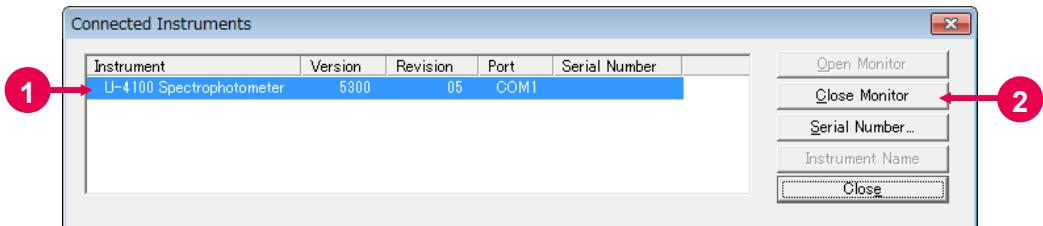
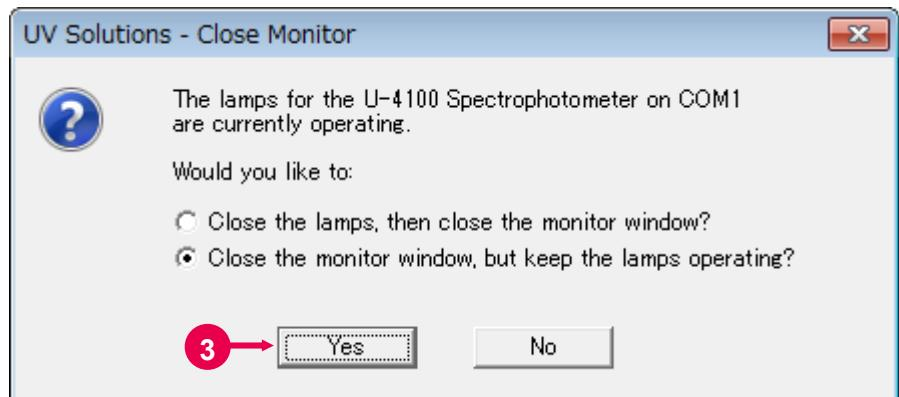

Fig. 6-4 (example of U-4100)
Fig. 6-5 (with U-4100)
- (1) On the Standard toolbar, click the  (Instruments) button (or select the Instruments command from the Tools menu). The mouse pointer will take the shape of an hourglass. About 10 seconds later, a dialog box as shown in Fig. 6-4 will appear. In this example, it is indicated that the spectrophotometer is connected.
- (2) In the Connected Instruments dialog box, click the spectrophotometer to be connected (refer to (1) in Fig. 6-4), and it will be highlighted in blue. At the same time, the **Close Monitor** and **Close** buttons will become active.
- (3) Click the **Close Monitor** button (refer to (2) in Fig. 6-4). A dialog box as shown in Fig. 6-5 will appear. To place the spectrophotometer offline, click the **Yes** button (refer to (3) in Fig. 6-5). With the U-5100, however, clicking the **Close Monitor** button will place it offline without presenting the dialog box shown in Fig. 6-5.